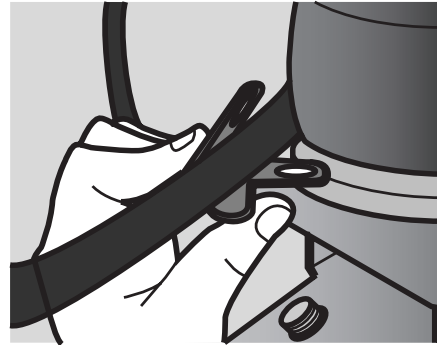

Fig. 18
1. Slide the provided clip (P) onto the rubber coated brake line (Fig. 18). Secure the clip (P) to the clinch bolt already installed on the lower bracket (F) with a flat washer (M) and 5/16" lock nut (N).